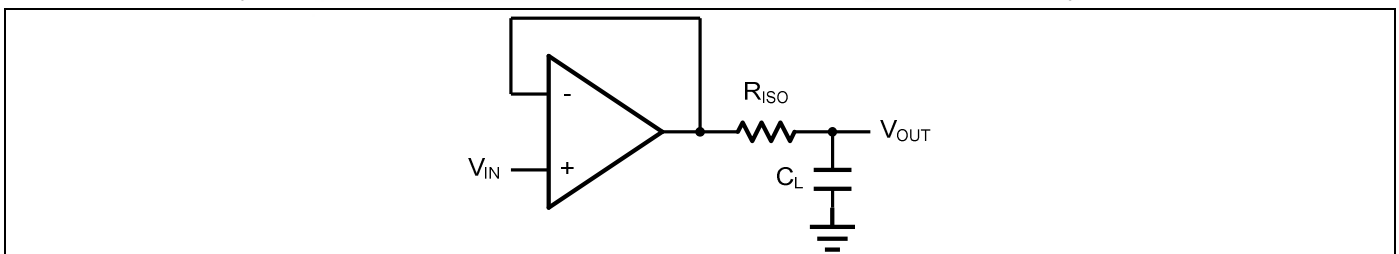
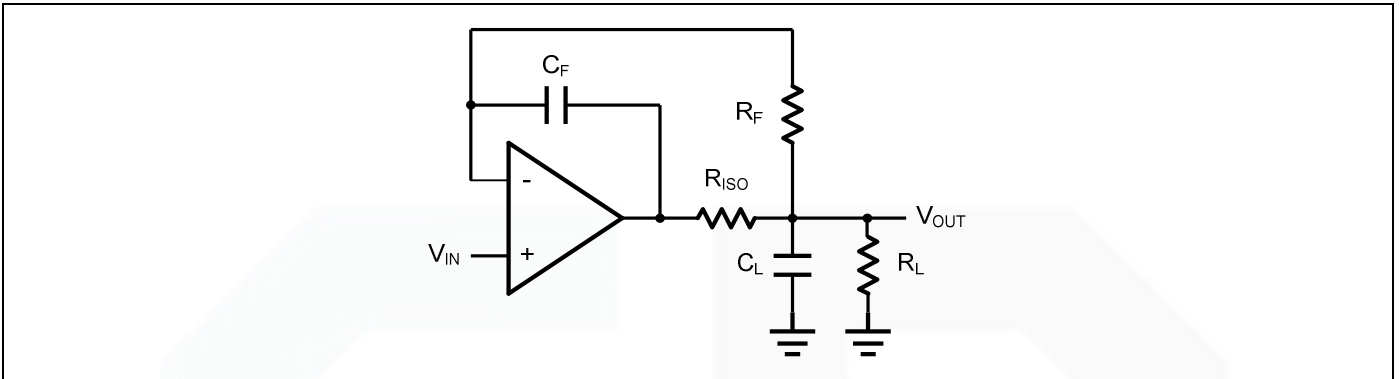

Figure 2. Indirectly Driving a Capacitive Load Using Isolation Resistor
Figure 3. Indirectly Driving a Capacitive Load with DC Accuracy
The GS8622/24 family is optimized for bandwidth and speed, not for driving capacitive loads. Output capacitance will create a pole in the amplifier's feedback path, leading to excessive peaking and potential oscillation. If dealing with load capacitance is a requirement of the application, the two strategies to consider are (1) using a small resistor in series with the amplifier's output and the load capacitance and (2) reducing the bandwidth of the amplifier's feedback loop by increasing the overall noise gain. Figure 2. shows a unity gain follower using the series resistor strategy. The resistor isolates the output from the capacitance and, more importantly, creates a zero in the feedback path that compensates for the pole created by the output capacitance.
The circuit in Figure 3 is an improvement to the one in Figure 2.  $R_F$  provides the DC accuracy by feed-forward the  $V_{IN}$  to  $R_L$ .  $C_F$  and  $R_{ISO}$  serve to counteract the loss of phase margin by feeding the high frequency component of the output signal back to the amplifier's inverting input, thereby preserving the phase margin in the overall feedback loop. Capacitive drive can be increased by increasing the value of  $C_F$ . This in turn will slow down the pulse response.